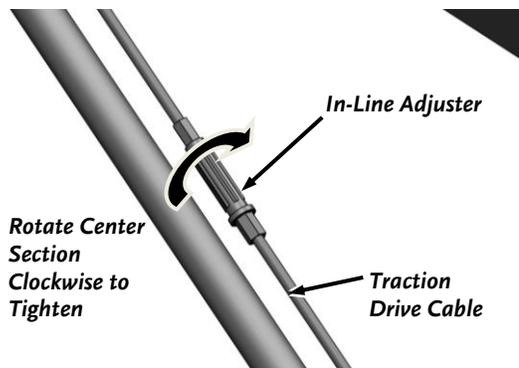

Figure 37
1. Locate the Traction Drive Cable along the Right Side of the Handlebar **(Figure 37)**. There is an In-Line Adjuster to change the length of the Cable.